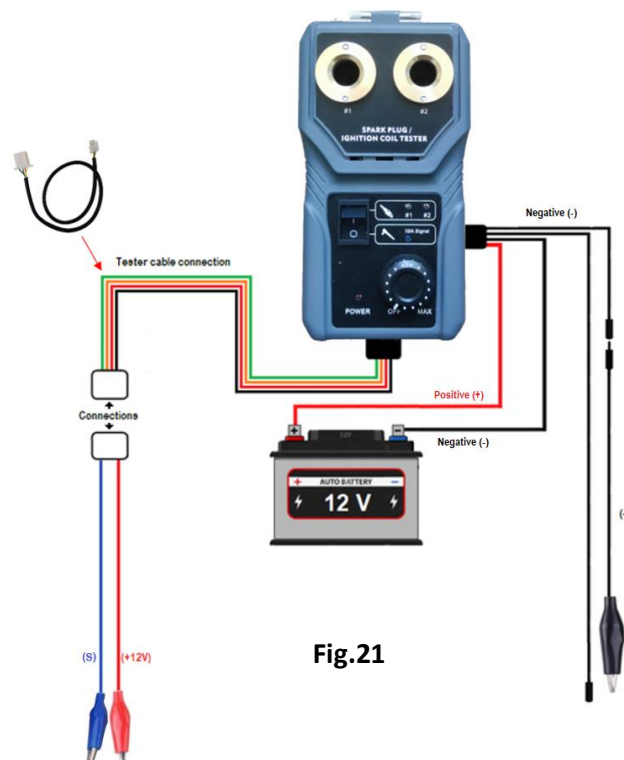

Fig.21
3. For Sensor simulation test, connect to the [red wire and green wire] cable (Fig. 21 below).